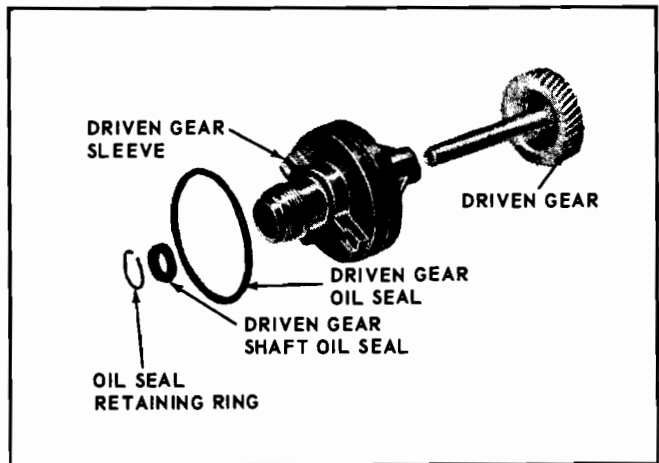

Fig. 7F-17 Speedometer Driven Gear Assembly
2. Remove oil strainer retaining bolt and remove strainer assembly (Fig. 7F-18), using a twisting motion. Discard oil seal.